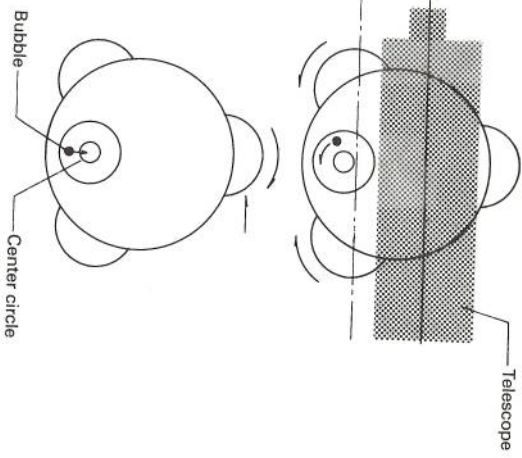

Fig. 5
Telescope Leveling screw Bubble Setting circle (A) (B) Fig. 5 Circular level